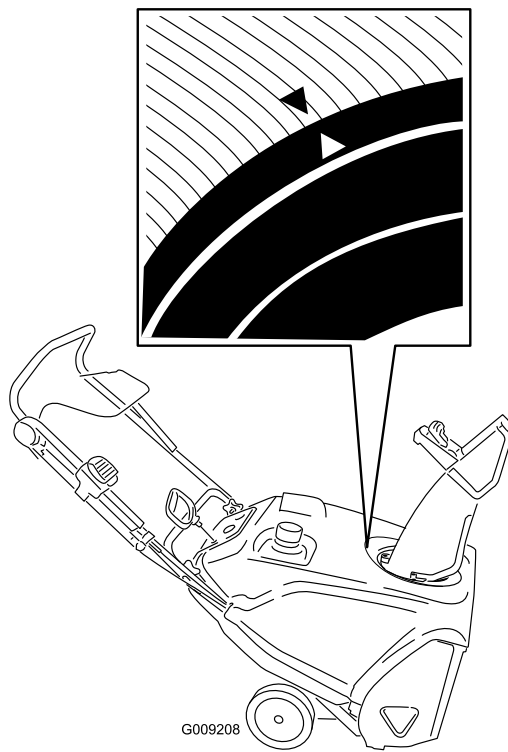

Figure 32
3. Rotate the discharge chute so that it faces straight ahead and the arrow on the back of the discharge chute aligns with the arrow on the shroud (Figure 32).